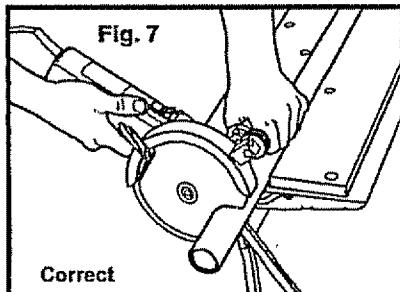

Fig. 7
**ALWAYS** hold saw by motor body and assist handle (see Fig. 7).